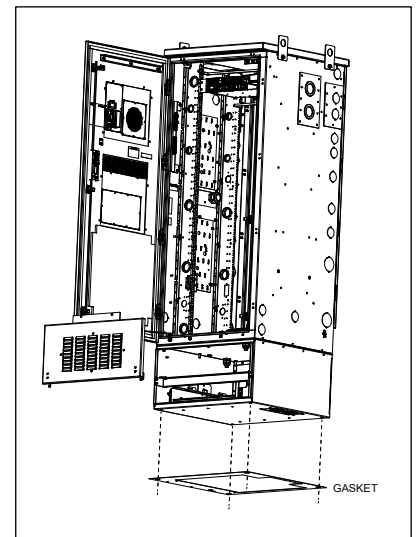

Figure 6 **Gasket Installation**
3. Install the gasket and place into position on the pad/platform so that the gasket will be underneath the bottom of the CUBE when it is placed. Line up the gasket so that the cutouts are in position around the conduit opening and over the mounting holes as shown in Figure 6.